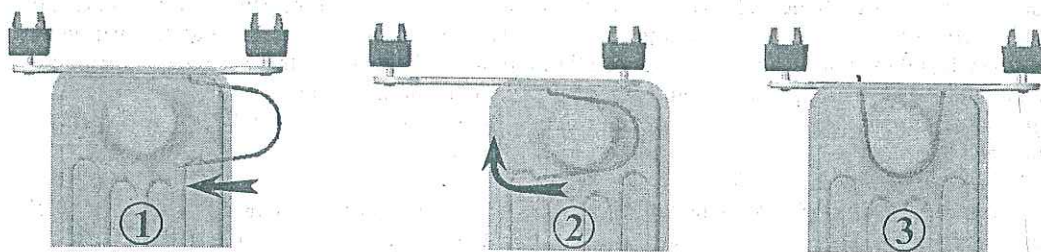

Fig. 1
2. Application of the feet and wheels (Figure.1)
ATTENTION: In order to ensure your radiator's safe operation, assemble the bridge, as illustrated on Figure.1